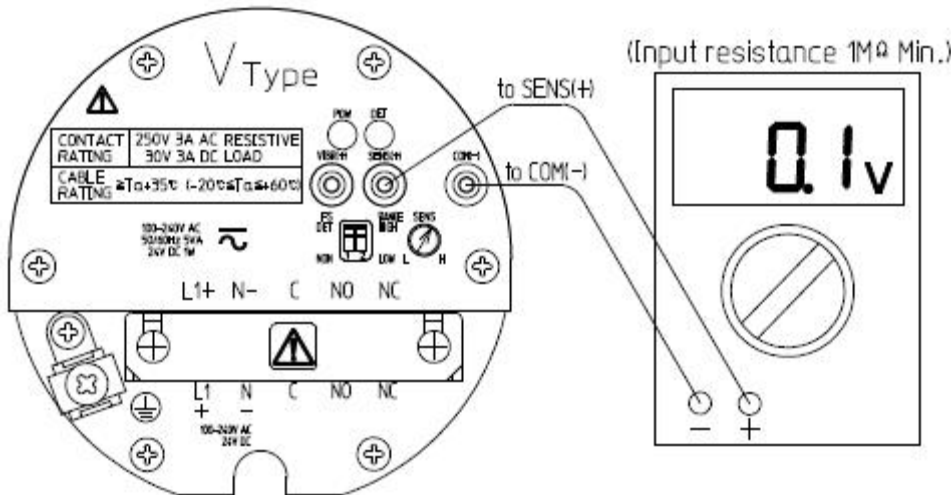

Fig. 8-2
(3) Prepare the digital meter so that it measures voltages between 0 and 5V DC with 0.1V resolution. Connect the positive wire to the sensitivity check terminal, and the negative wire to the COM terminal. See figure 8-2.